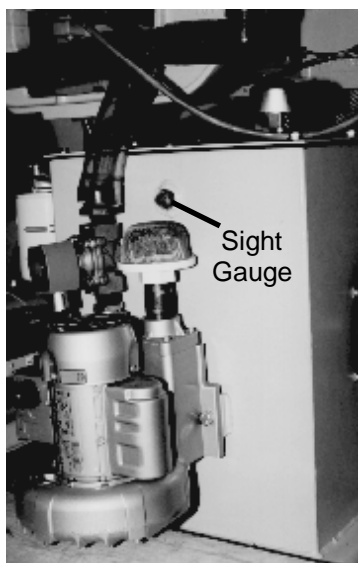

Figure 27
8. Using the transfer pump, fill the tank with recommended fluid until the level is just above the sight gauge shown in Figure 27 on page 54.